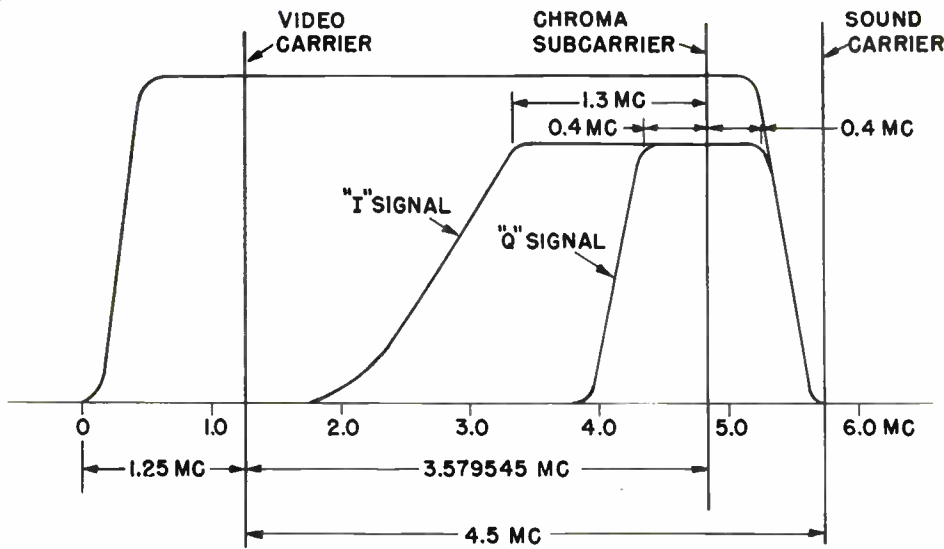

Fig. 2. Six-megacycle television channel showing position and bandwidth of chroma signals.
8. The two chroma signals I and Q have different bandwidths and therefore occupy different proportions of the 6.0 mc channel as shown in Fig. 2. The Q signal has an approximate bandwidth 0.5 mc above and below the subcarrier. The frequency of the I signal extends well below the subcarrier and 0.5 mc above. It should be noted that channel frequency limits and the sound and video carrier frequency allocations are precisely the same as for a monochrome transmission. This is an absolute necessity in order to have a compatible color system.